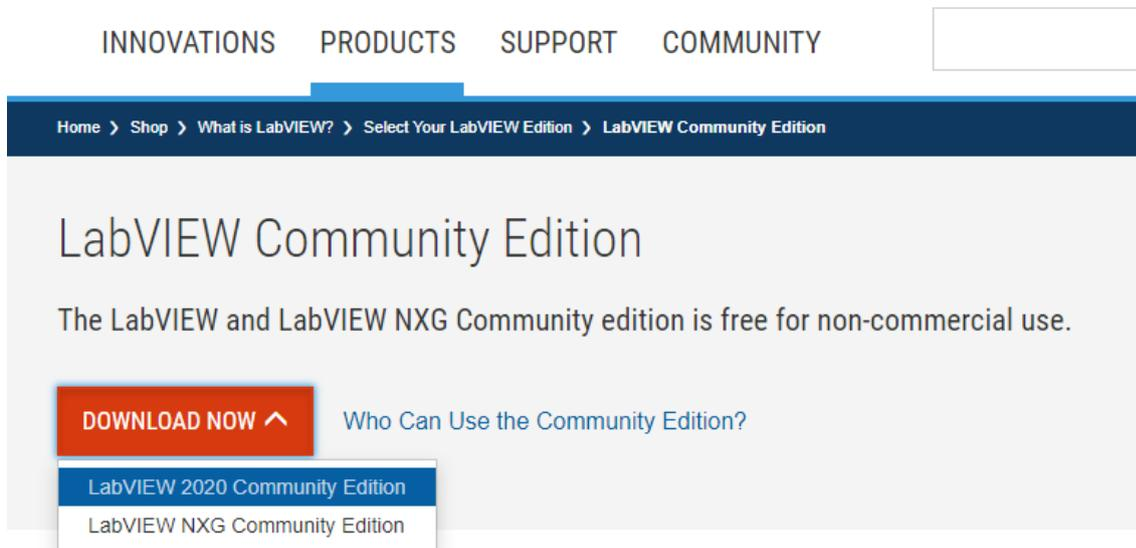

Figure 2-7 Downloading window
2. Click "DOWNLOAD NOW" button and select "LabVIEW 2020 Community Edition (Figure 2-7).